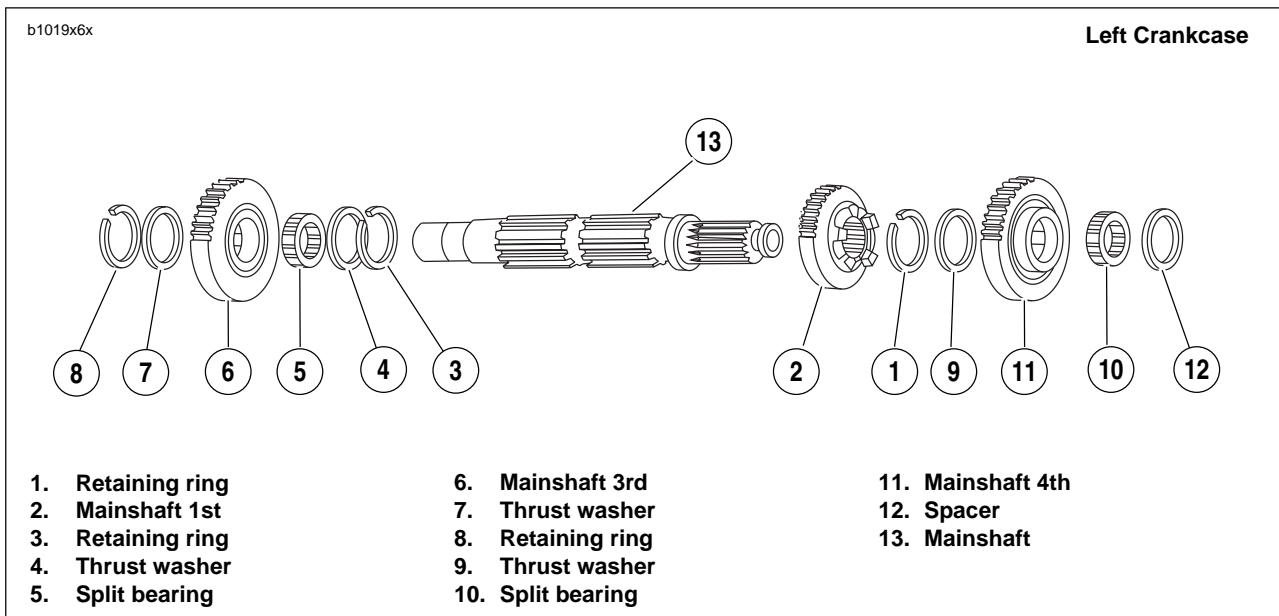

Figure 6-61. Transmission Mainshaft Assembly/Reassembly
1. See Figure 6-61. Install **new** retaining ring (1) onto mainshaft in the first ring groove from the threaded end of the mainshaft.
2. Slide mainshaft 1st gear (2), identified by two grooves in gear teeth, onto mainshaft with the fork groove facing mainshaft 4th gear (10).
3. See Figure 6-61. Install **new** retaining ring (3).
- a. Install thrust washer (4) onto mainshaft.
- b. Install split bearing (5) onto mainshaft.
- c. Install mainshaft 3rd gear (6) onto shaft over bearing (5). 3rd gear is installed with shifting lugs away from 1st gear mainshaft.